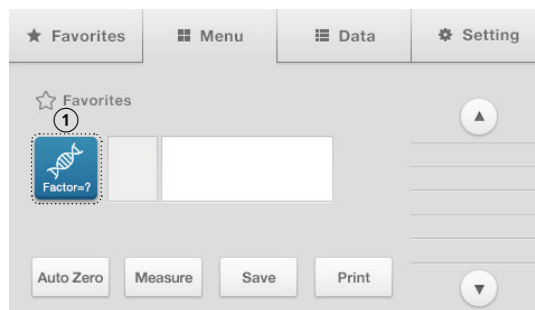
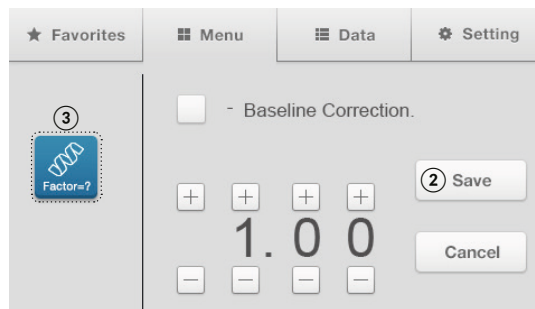

Fig. 3.4
Fig. 3.5
1. [Figure 3.4] Press the ① [Factor =?] icon on the measurement mode screen to display the [Figure 3.5] screen.
2. [Figure 3.5] Select a factor to input using the + and - buttons and press the ② [Save] button to save (0.01 ~ 99.99). If [Cancel] is pressed, the previous value will be restored. Press the ③ [Factor=?] icon on the screen after setting is complete to display the measurement screen.
2. [Figure 3.5] Select a factor to input using the + and - button and press the ② [Save] button to save (0.01 ~ 99.99). If [Cancel] is pressed, the previous value will be restored. Press the ③ [Factor=?] icon on the screen after setting is complete to display the measurement screen.